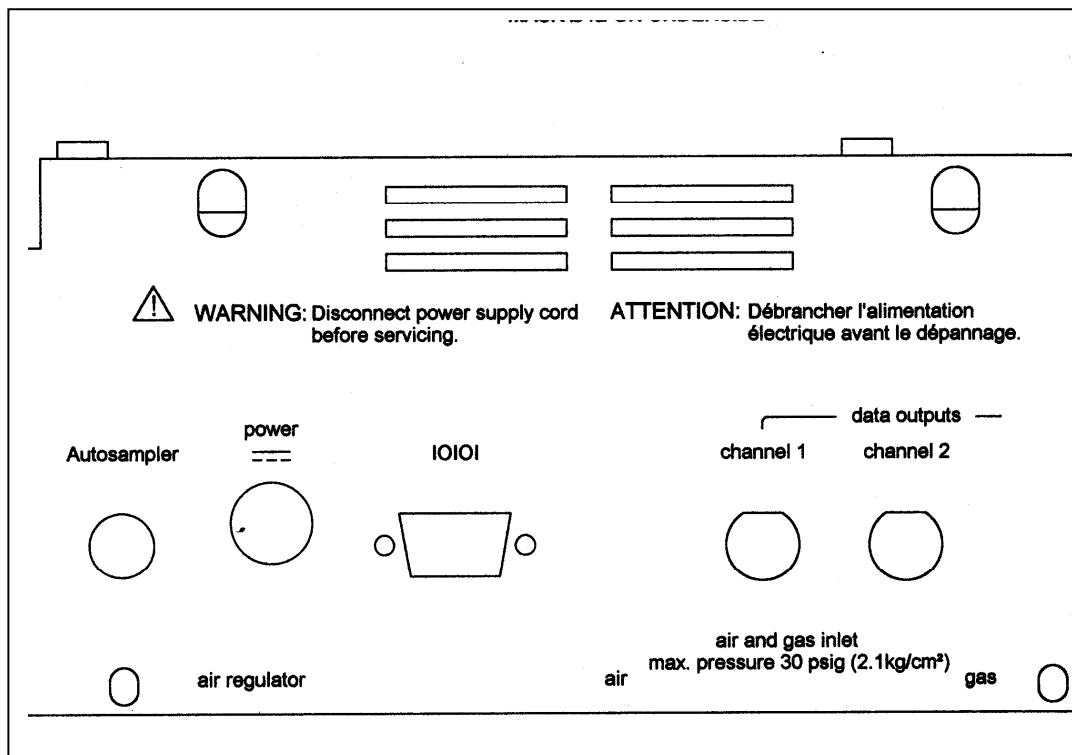

Figure 2.3 Rear Panel
10. Plug in the external Power supply to the inlet shown in Fig 2.3.
Sherwood Scientific can supply a serial printer set up to operate with the Model 420 & Model 425 (Part # 473 86 009). This should be connected to the cable supplied with the instrument, the other end of which is connected to the rear panel in the RS232 socket as shown in Fig 2.3.
The Autosampler is supplied with a signal cable which is plugged into the Rear panel as shown in Fig 2.3.